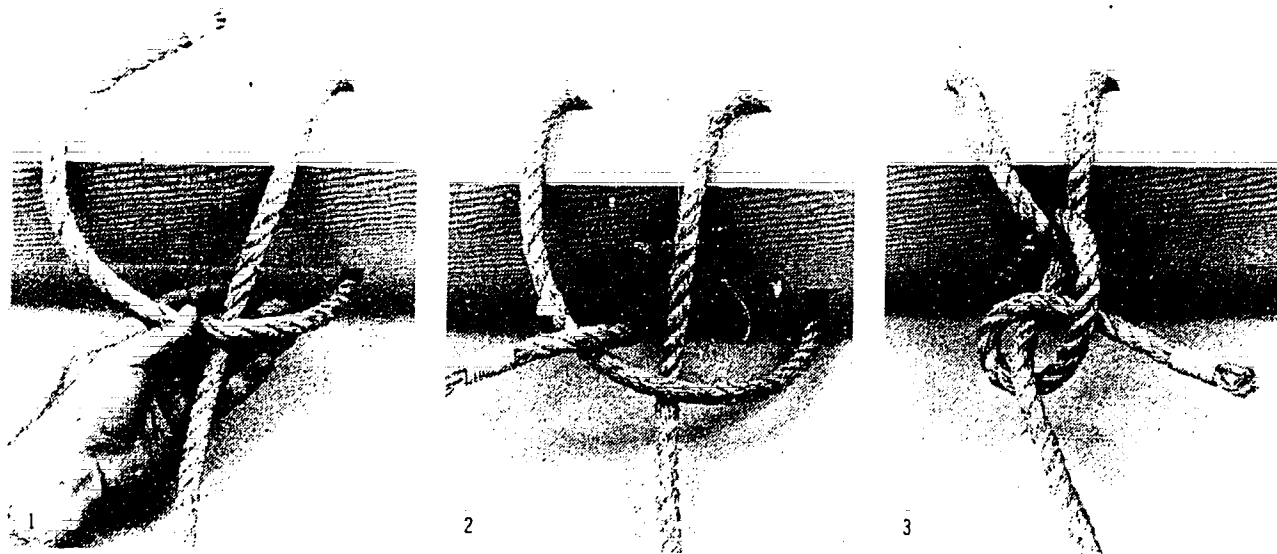

Figure 7-20. Tying a Clove Hitch at the End of Line
3. The **clove hitch** offers a fast, simple way of fastening a line to a post, timber or pipe and can be tied at any point in the line. To tie a clove hitch in the middle of the line, make two turns close together in the line and twist them to bring them back to back as shown in Figure 7-19. Slip the loops over the post. To tie a clove hitch at the end of the line, two underhand loops are tied around the post as shown in Figure 7-20.